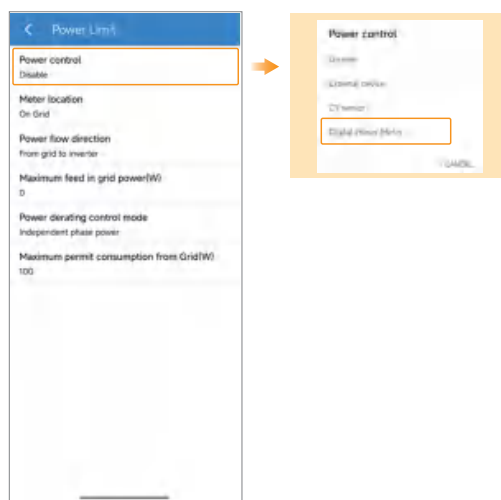

Figure 4-6 Set Power Control
Step 5 Set power control: Go to **Console > Power Limit > Power control > Digital Power Meter**. (Figure 4-6)